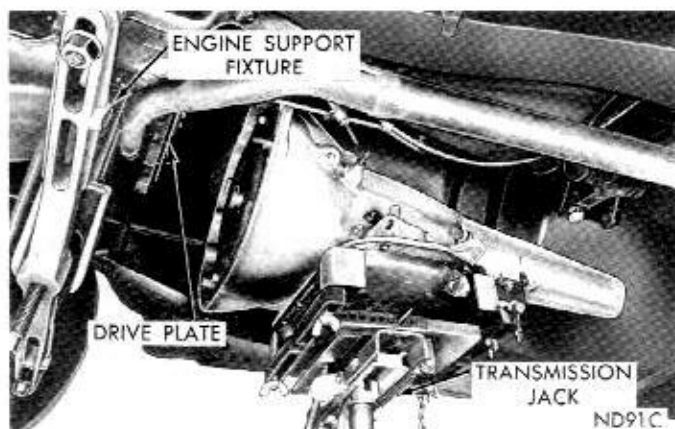

Fig. 26—Engine Lifting Fixture
(11) Disconnect throttle rod from throttle lever on the transmission.
(12) Disconnect oil cooler lines at transmission and remove oil filler tube. Disconnect the speedometer cable.
(13) Mark parts for reassembly then disconnect propeller shaft at rear universal joint. Carefully pull shaft assembly out of the extension housing.
(14) Remove rear mount to extension housing bolts.
(15) Install engine support fixture, Tool C-3487-A and raise the engine slightly (Fig. 26).
(16) Some models have exhaust systems which will have to be partially removed for clearance. See Exhaust Systems, Section 11.
(17) Remove crossmember attaching bolts and remove the crossmember.
(18) Place a transmission service jack under transmission to support the assembly.
(19) Attach a small "C" clamp to edge of bell housing to hold converter in place during removal of the transmission.
(20) Remove the bell housing retaining bolts. Carefully work transmission rearward off engine block dowels and disengage converter hub from end of the crankshaft.
(21) Lower transmission jack and remove transmission and converter assembly.
(22) To remove converter assembly, remove "C" clamp from edge of bell housing, then carefully slide